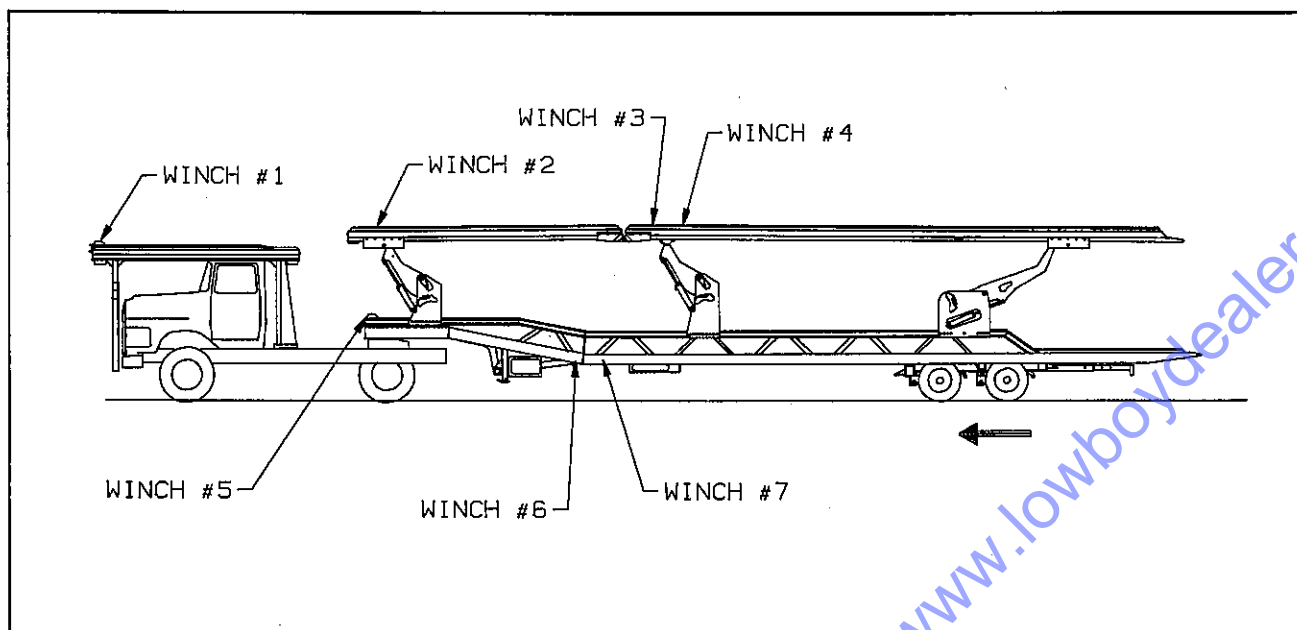
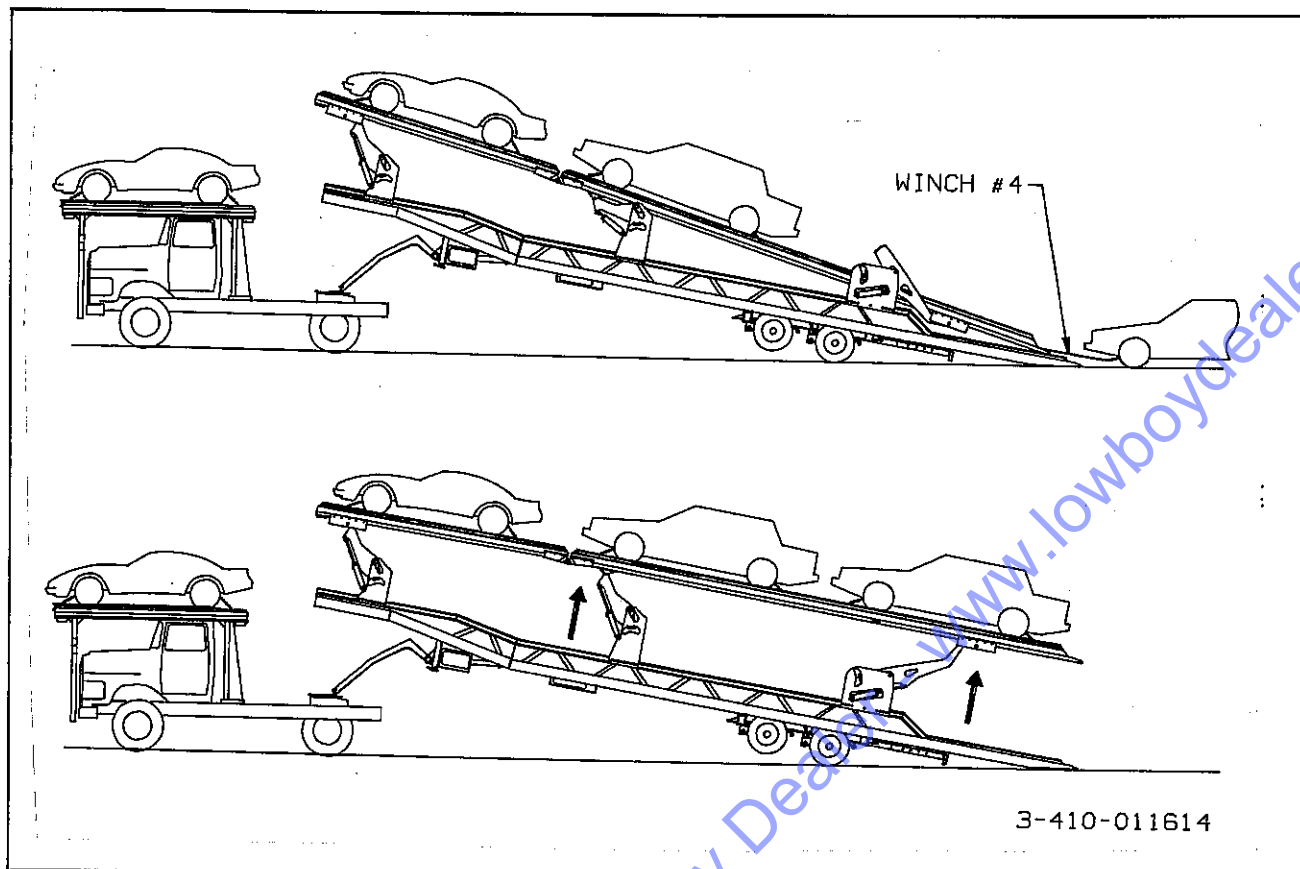

Figure 3-6 Preparation for Loading
Figure 3-10 Loading the Upper Deck
- a. Park the tractor/trailer in a straight line on a level even surface. Set the tractor brakes and release the semitrailer brakes. (See Figure 3-6.)
h. Prepare the first vehicle to be winched onto the trailer. Connect winch #2 (see Figure 3-6) to the first vehicle and pull it to the front of the upper deck. Secure the vehicle so it will not roll forward or backward.
- f. Connect winch #2 (see Figure 3-6) to the next vehicle and pull it to the front of the upper deck. Make
g. Free-wheel the winch cable from winch #4 (see Figure 3-6) out until it is at the rear of the upper deck so it is accessible after loading the next vehicle.
h. Connect winch #3 (see Figure 3-6) to the next vehicle and pull it to the center position on the upper deck. Secure with chains (see paragraph 3-11.7).
i. Connect winch #4 (see Figure 3-6) to the next vehicle and pull it to the rear position on the upper deck. (See Figure 3-10.) Secure with chains (see paragraph 3-11.7).
c. Connect winch #5 (see Figure 3-6) to the next vehicle and pull it to the front of the lower deck as far as
d. Free-wheel the winch cable from winch #7 (see Figure 3-6) out until it is at the rear of the lower deck so it is accessible after loading the next vehicle.
e. Connect winch #6 (see Figure 3-6) to the next vehicle and pull it to the center position on the lower deck. Secure with chains (see paragraph 3-11.7).
f. Connect winch #7 (see Figure 3-6) to the next vehicle and pull it to the rear position on the lower deck. Secure with chains (see paragraph 3-11.7).
h. Reel out winch #1 (see Figure 3-6) to allow the vehicle to move off of the Over-the-cab deck and onto the trailer upper deck.
i. After the vehicle is completely on the trailer bed, secure the vehicle so winch #1 (see Figure 3-6) can be disconnected and winch #2 (see Figure 3-6) can be connected to the vehicle.